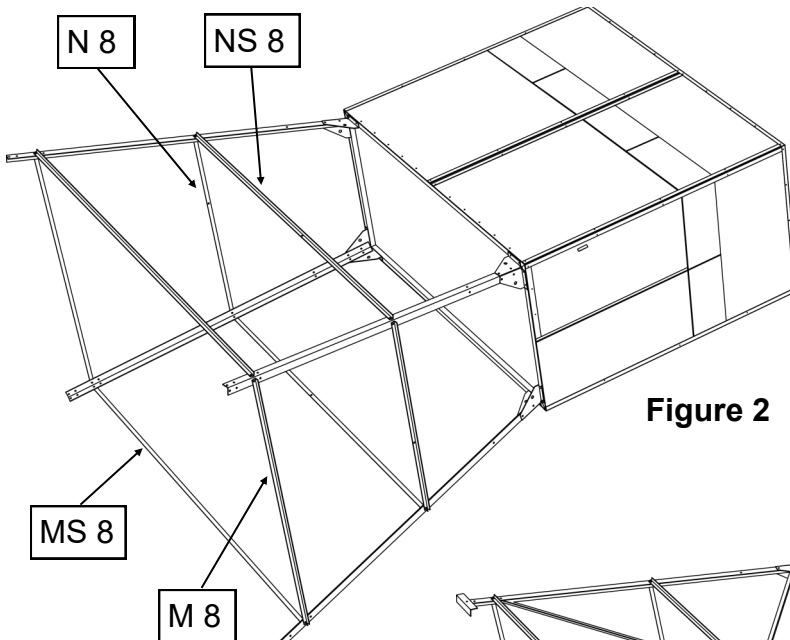

Figure 2
Step 2: Install the **Horizontal Bracing** (M 8 and N 8) for support. (*Figure 2*)